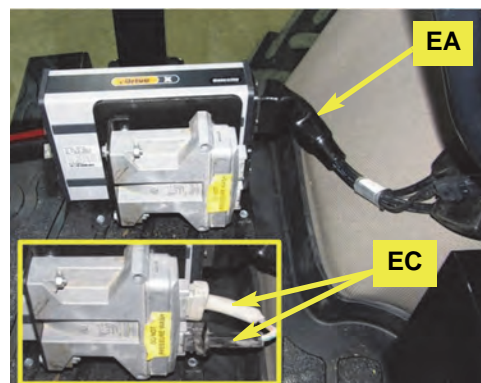

Figure 1d: Installed ECU main cable (and, inset, steering controller main cable)
- d. Connect ECU main cable **EA** to the socket on the ECU **EI** that is in line with the power and communications indicators at the opposite end of the ECU (**EA** will only fit that socket—the top socket in this installation). Use an Allen wrench to secure the cable to the ECU (Figure 1d). Connect steering controller main cable **EC** (see step 2a following).
- a. Connect steering controller cable **EC**'s two 12-pin connectors (black and gray) to their respective sockets on the steering controller **EJ** (Figure 1d).